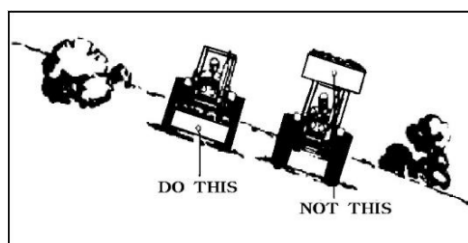

Fig .4.4.Driving on hillside.
- Operating the loader on a hillside is dangerous. Extreme care is recommended shown in figure 4.4.